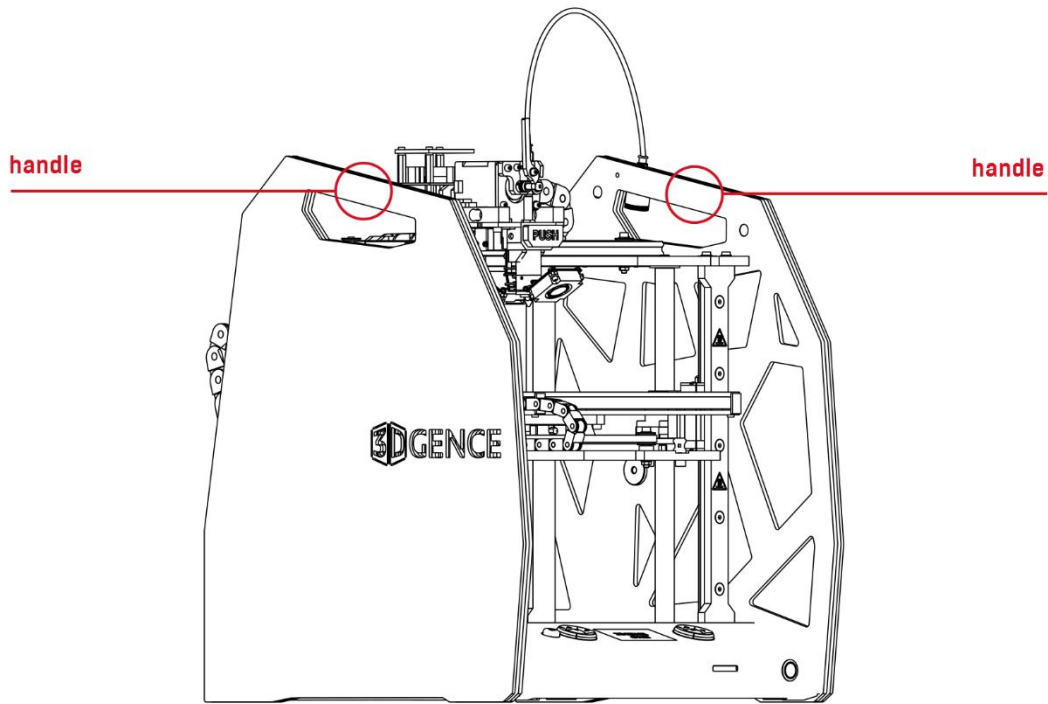

Fig. 3 Locations of handles for printer handling
- the printer should be lifted only by the handles designated for this purpose (fig. 3); do not lift the printer by any other elements,